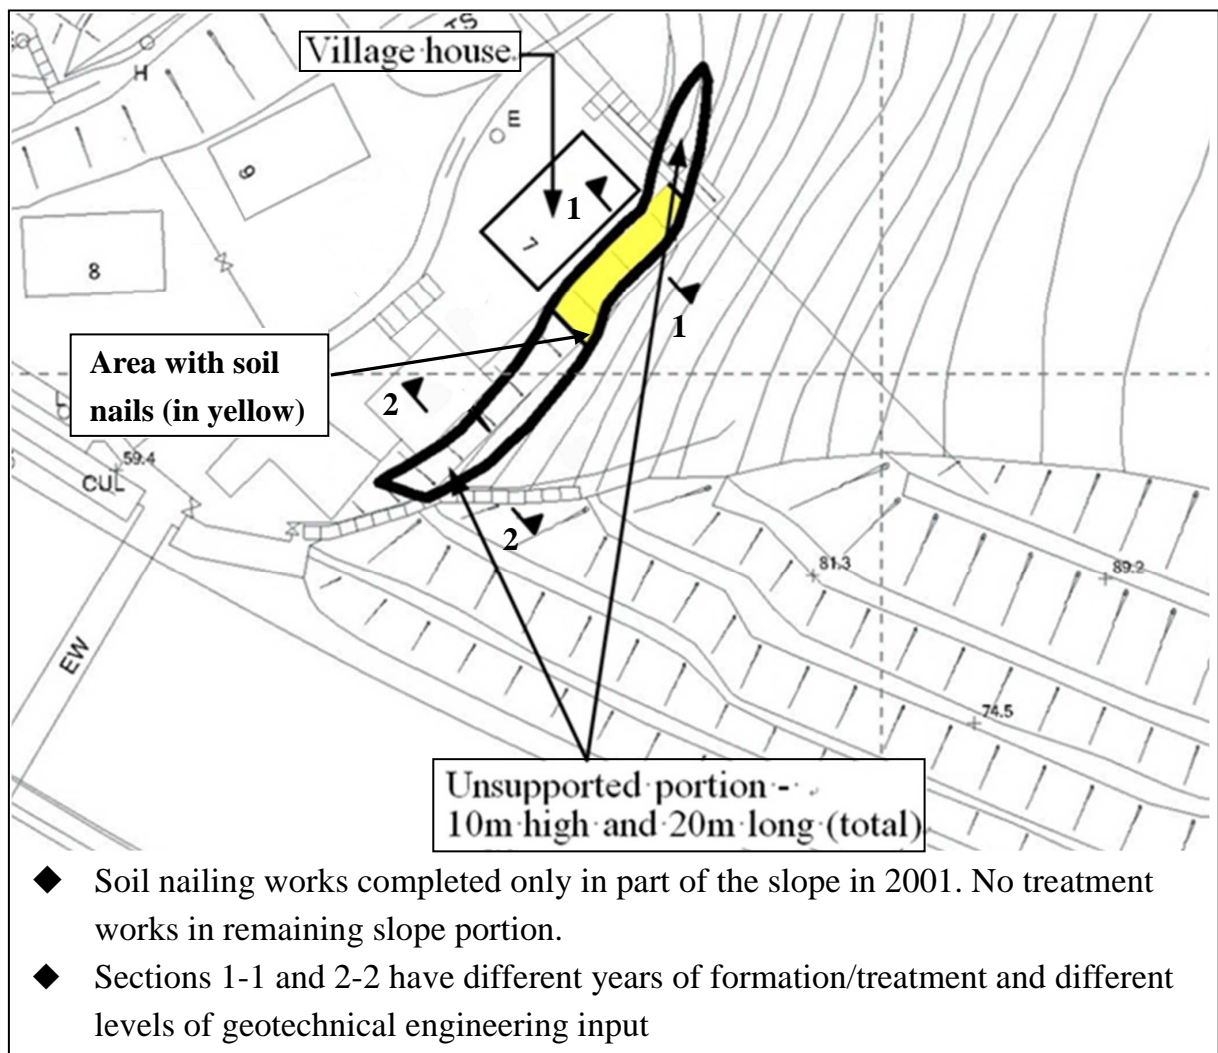

Figure 1 – Soil Cut Feature Having Different Levels of Geotechnical Engineering Input
1. Should the ranking score (RS) be assessed at the cross-sections corresponding to the most severe consequence and maximum height of the feature?
- Should assess RS at a sufficient number of cross-sections with due account given to, among other things, consequence of failure, feature height, feature type, level of geotechnical engineering input, etc. at different portions of the slope (e.g. at both government and private portions of mixed responsibility features). See examples in Figures 1 & 2 below.